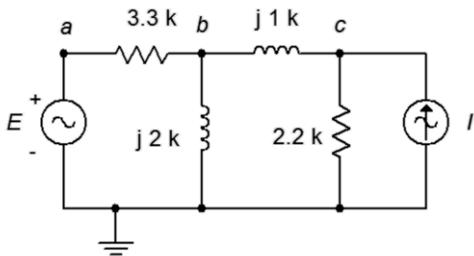

Figure 5.12
23. Use Superposition to determine the current of source  $E$  in the circuit of Figure 5.12.  $E = 40\angle 180^\circ$  and  $I = 20E - 3\angle 0^\circ$ .
24. Use Superposition to determine  $v_{ac}$  in the circuit of Figure 5.12.  $E = 28\angle 0^\circ$  and  $I = 8E - 3\angle -180^\circ$ .